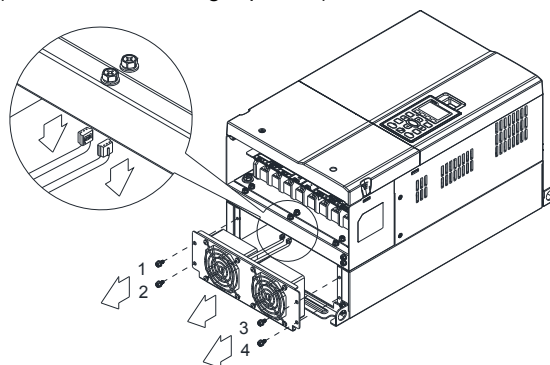

Figure 4
- Step1. (Figure 4) Loosen the screws. Screw torque: 24~26kg-cm (20.8~25.6in-lbf).